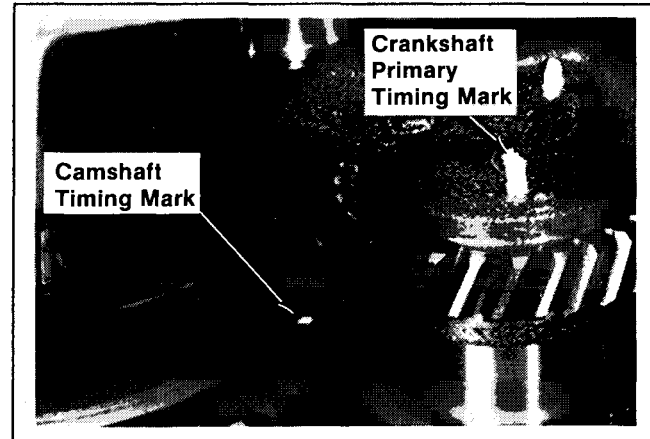

Figure 12-11. Aligning Crankshaft and Camshaft Timing Marks.
2. Align the primary timing mark on crankshaft with the timing mark on camshaft. Refer to Figure 12-11. Press the crankshaft into rear bearing. Make sure the camshaft and crankshaft gears mesh and that the timing marks remain aligned while pressing.